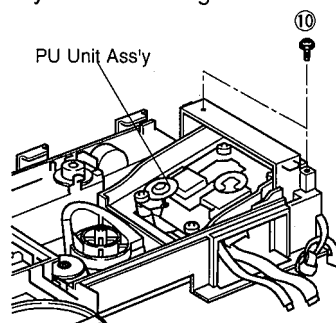

Fig. 5
- Remove 2 screws (⑩) and then remove the PU Unit Ass'y as shown Fig. 5.